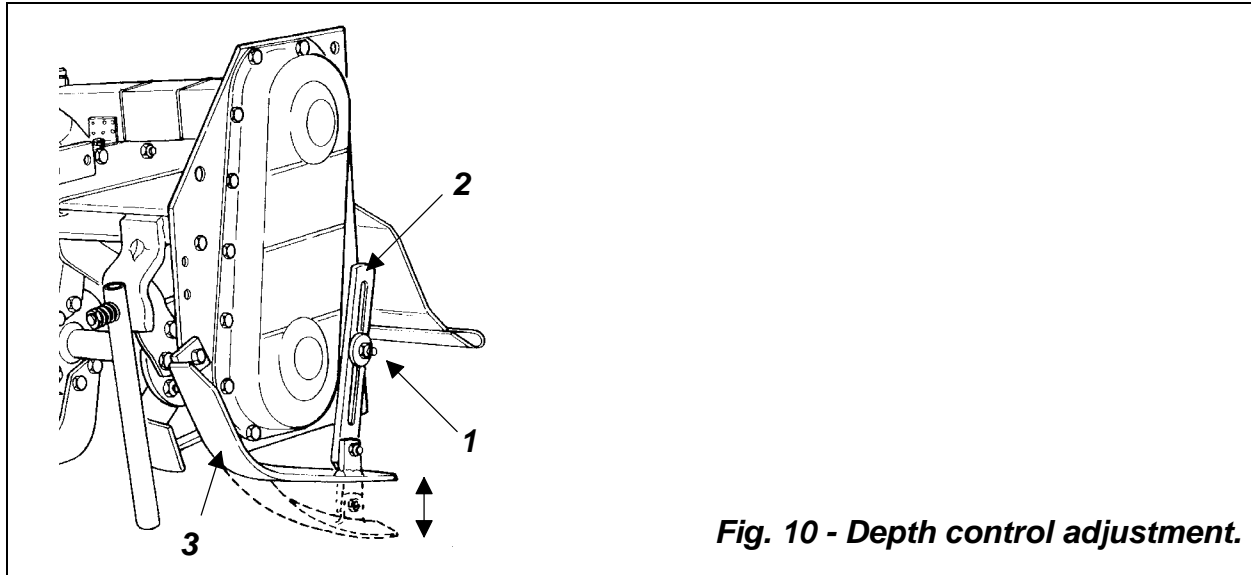

Fig. 10 - Depth control adjustment.
1. Loosen the nut (see #1, fig. 10) on the adjustment arm.
2. Place the skid (see #3, fig. 10) in the desired position.